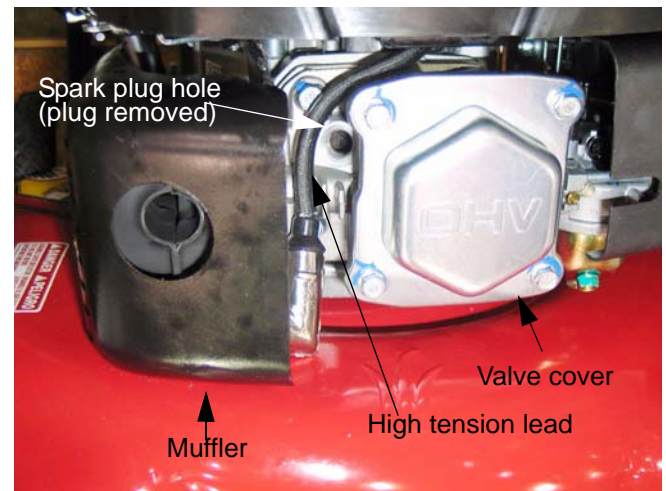

Figure 1.9
3. Remove the spark plug using a 13/16" or 21mm wrench. A flexible coupling or "wobbly" extension may help. See Figure 1.9.